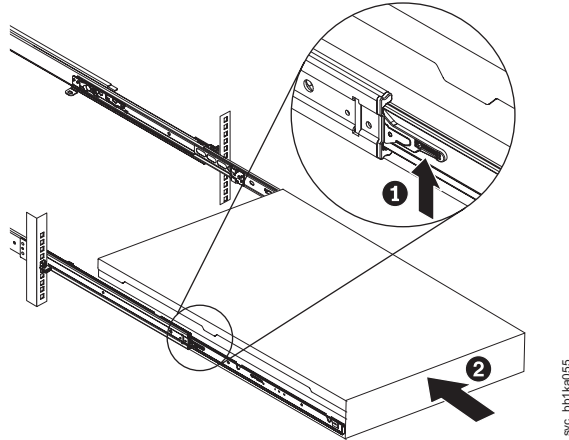

Figure 111. Raising the SAN Volume Controller 2145-CF8 locking levers of the slide rails of the rack
12. Lift the locking levers (**1** in Figure 111 on page 129) on the slide rails and push the server **2** all the way into the rack until it clicks into place.